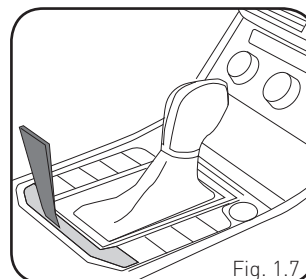

Fig. 1.7
8. Using a small panel tool, remove the trim panel located at the base of the shifter. (Fig. 1.7)